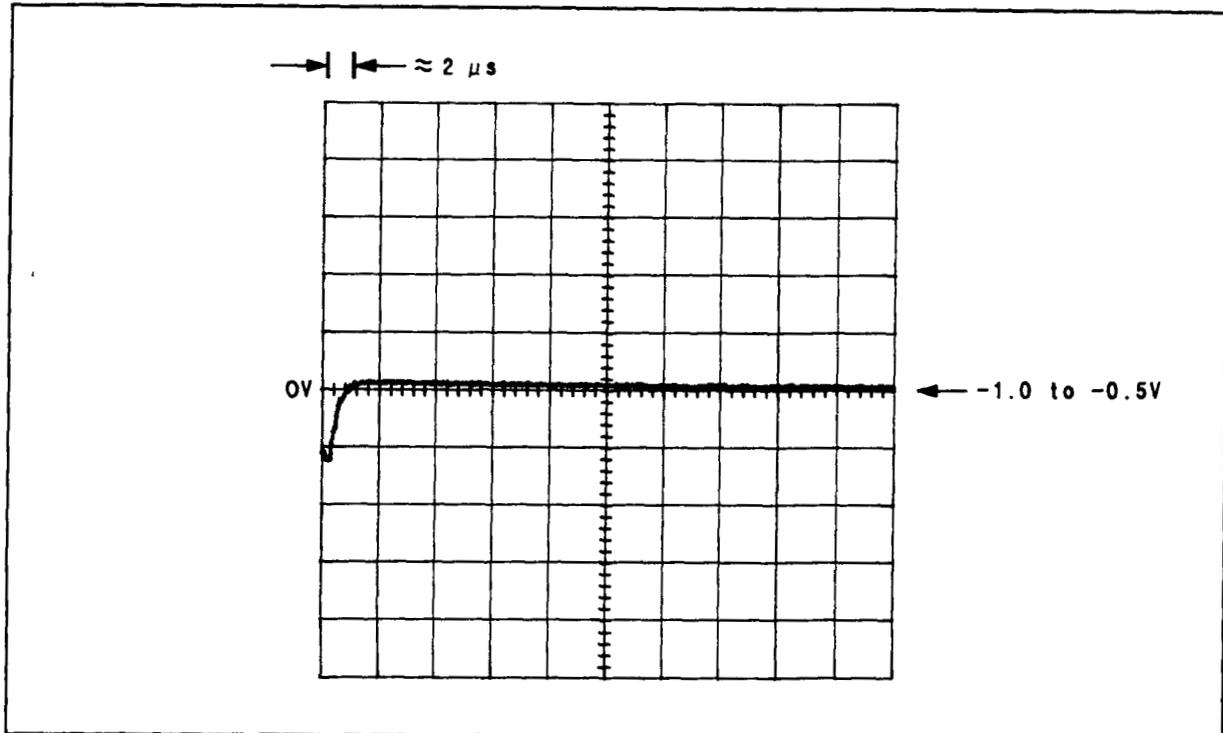

Figure 8F-32. Waveform for  $\sqrt{1}$  Step 4
4. Check the voltage at the collector of Q5 with a high-impedance, dc coupled oscilloscope. The waveform should be a square wave with an amplitude of approximately 1.6 Vpp and a period of approximately 2.8 ms, but more importantly, observe the falling edge. Set the oscilloscope to trigger on a negative slope with a sweep time of 2  $\mu$ s per division. The waveform will be intermittently stable and very faint but the falling edge should be as in Figure 8F-32.